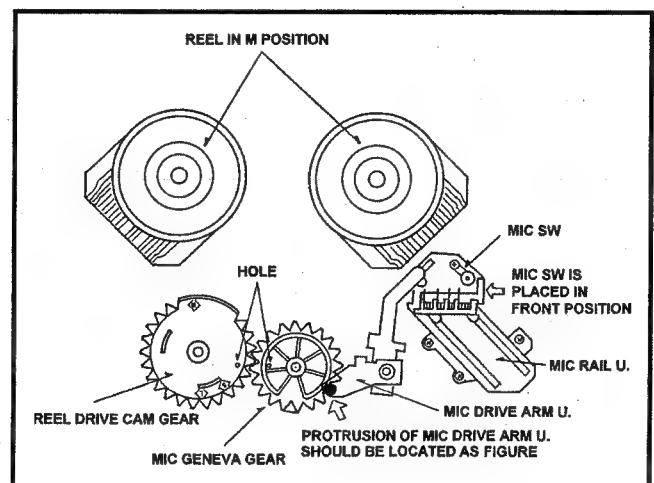

Fig. 6-22-3 Gear Phase Adjustment
4. Place the MIC SW at the front position on the MIC Rail Unit (the nearest portion to the reel) by rotating the MIC Geneva Gear. Then the MIC Geneva Gear should be positioned as shown in Fig. 6-22-3.
**Note:** The protrusion of MIC DRIVE Arm Unit is positioned as shown in Fig. 6-22-3.
5. Install the Reel Drive Cam Gear so that the hole of Reel Drive Cam Gear should be matched with the hole of MIC Geneva Gear as shown in Fig. 6-22-3.
- 3) Protrusion of MIC Drive Arm Unit is positioned as shown in Fig. 6-22-3.